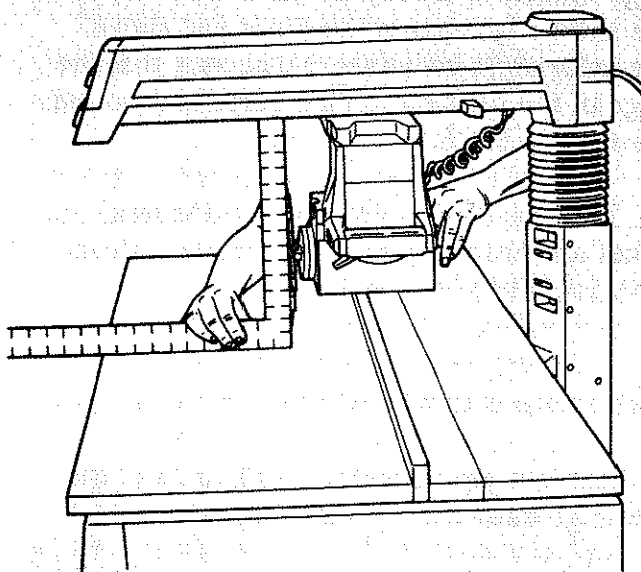

Fig. 115
3. Place the long edge of the framing square on the *table* and the short edge against the *blade* alongside the *arbor shaft*. Make sure the square is against the surface of the *blade* and not on the set of a tooth. (Figure 115)